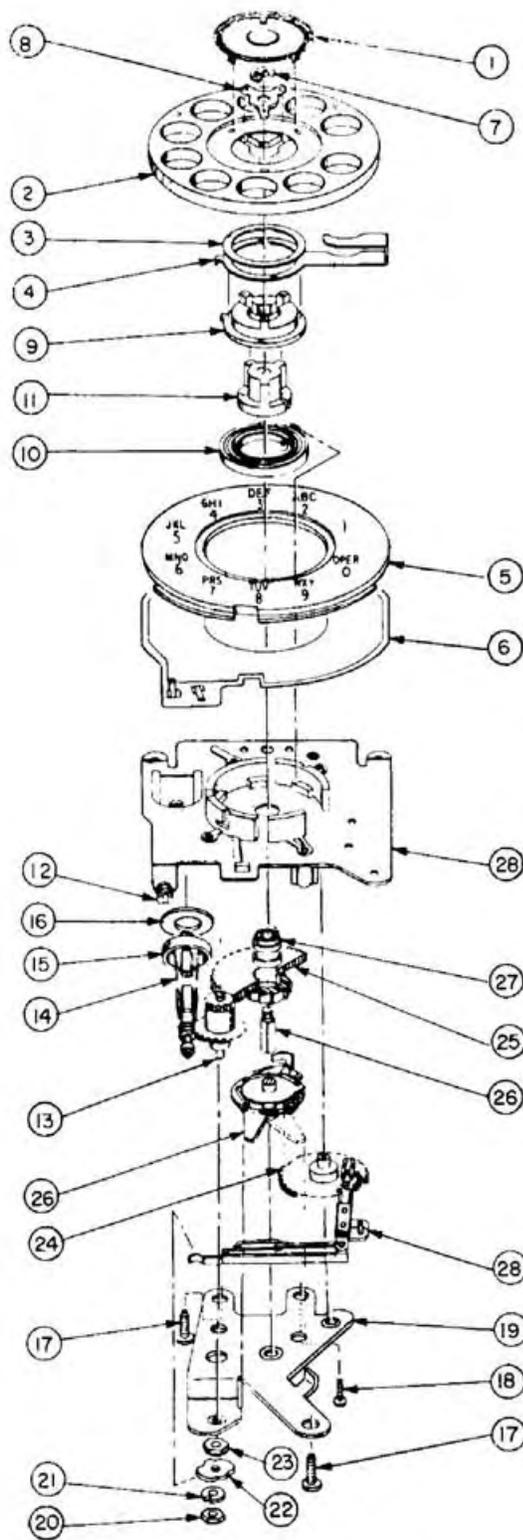

Figure 4. Exploded View of Type 154A Miniature Dial.
2.10 The Type 154A miniature dial has also been changed. The baseplate now has a molded plastic center section. A tab has been added to the finger stop to prevent overriding. The bushing is plastic and combined with the disc. The gear shunt cam is plastic and does not require an inserted metal shaft. The worm of the governor assembly is made of nickel-silver, and the hub is integrated with the worm. The governor cup is acetal and has an integral snap for mounting. The impulse spring-stop is now part of the bearing plate. The bearing screw is acetal, and the bearing nut is aluminum. Figure 4 shows an exploded view of components and mechanisms associated with the Type 154A dial. Table 1 provides a description and part number for each circled item shown in the figure. Certain items in Table 1 are optional; therefore, determine if the option is required before selecting or ordering specific items. These changes are effective with dial assemblies manufactured after January 1975.